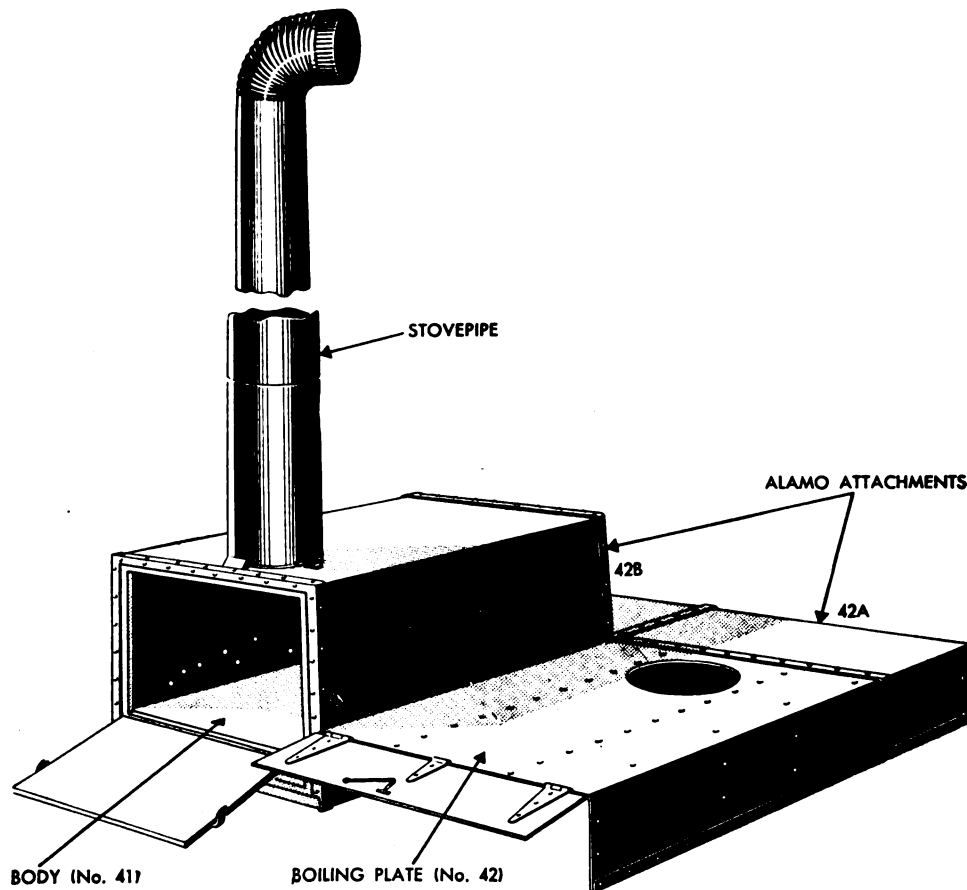

Figure 55. Range, Army field, No. 1 (65-B-1095) (complete with equipment, stock No. 65-B-1090).
a. The Army field range No. 1 (stock No. 65-B-1095) is a wood-burning range consisting of two major parts, an oven and a boiling plate, together with two additions to the boiling plate called Alamo attachments. (See figs. 55 and 56.) The range with attachments is designed to cook for 150 men.